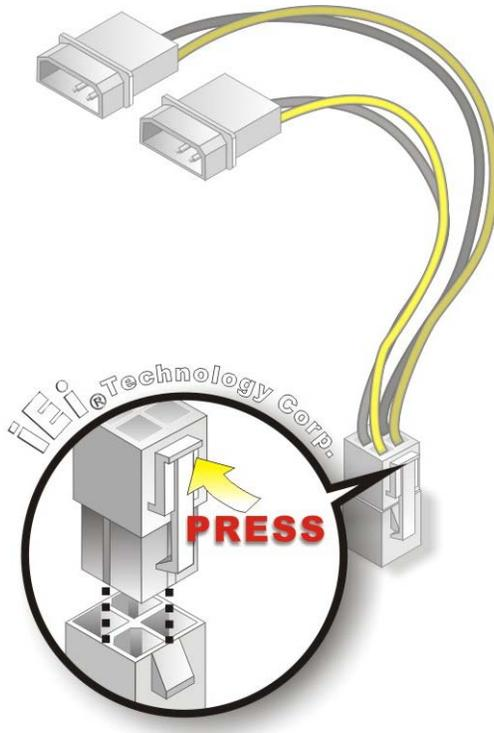

Figure 4-8: Power Cable to Motherboard Connection
Step 2: Connect the Power Cable to the Motherboard. Connect the 4-pin (2x2) Molex type power cable connector to the AT/ATX power connector on the motherboard. See Figure 4-8.